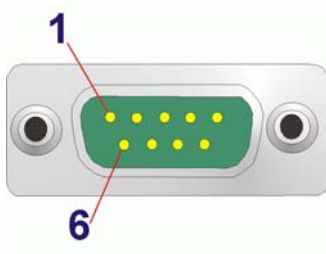

Figure 4-27: Serial Port Pinout Locations
- CN Pinouts:** See Table 4-25 and Figure 4-27